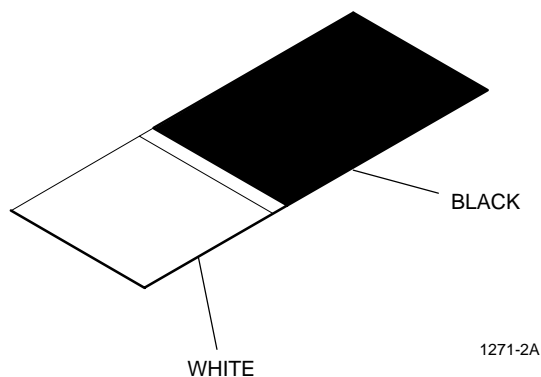

Figure 1-1. WBA Test Paper.
- **Combined Black and White Test Paper (p/n 549-047-90)** – This paper is different than the ones used for previous bill acceptors. It combines both black and white paper in one piece and is automatically fed through the sensor head by the transport mechanism (see Figure 1-1).